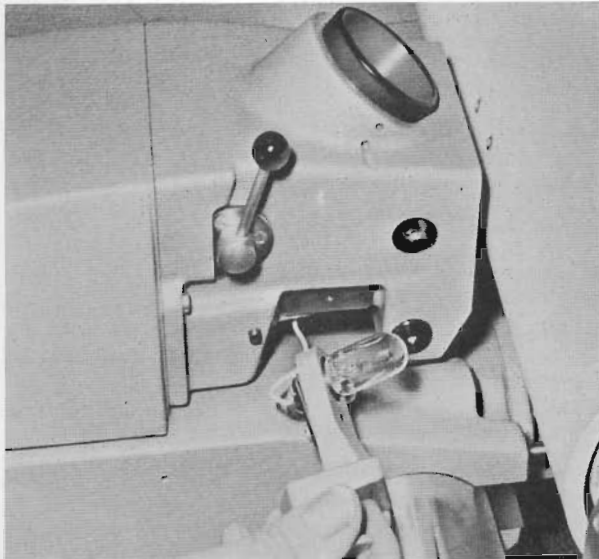

Fig. 12-5 Changing the Picture Lamp in the Mask Scanning Head
- Release the ON pushbutton (101).
- Loosen the knurled-head screw on the right-hand side of the mask scanning head, shift the lamp holder to the right front and remove it upwards (Fig. 12-5).